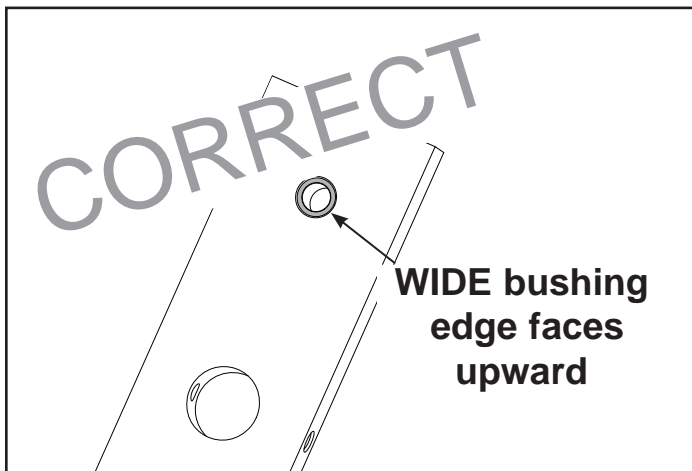

Figure 9A
- H. Carefully install each weight plate one at a time. **NOTE:** When installing weight plates, position plates so wide edges of bushing face upward and narrow edges of bushing face downward. See Figures 9A and 9B.